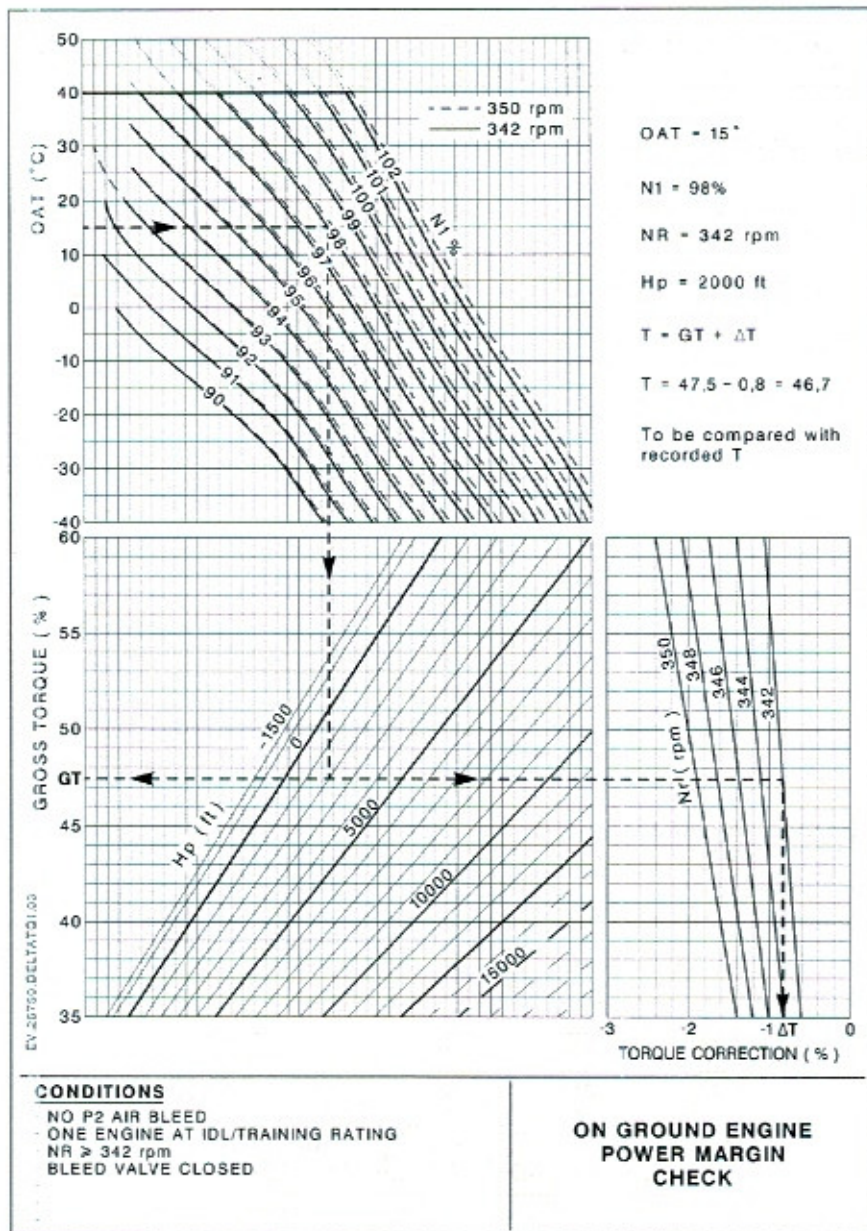

Figure 1
- The corrected torque value is determined using Figure 1 and has to be compared with the recorded torque.